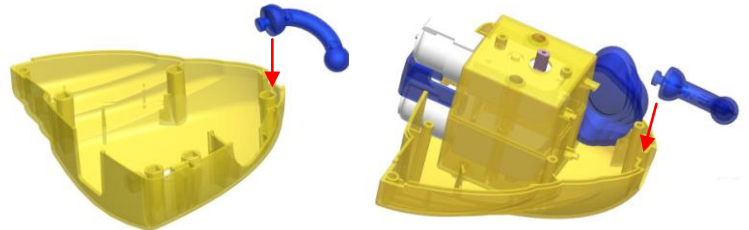

Fig. 6
5. Install the antenna to each body part (3). (Fig. 6)